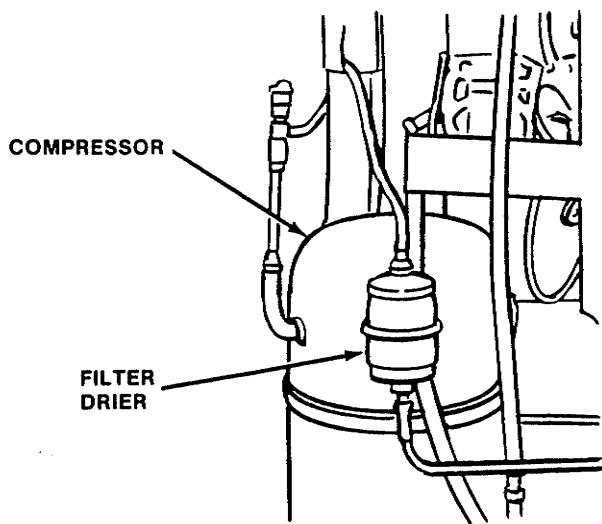

Figure 39. Filter Drier
7. Break the vacuum to 0 P.S.I.G. with R-502 and, with an open port, replace filter drier using the appropriate brazing material (Fig. 39).